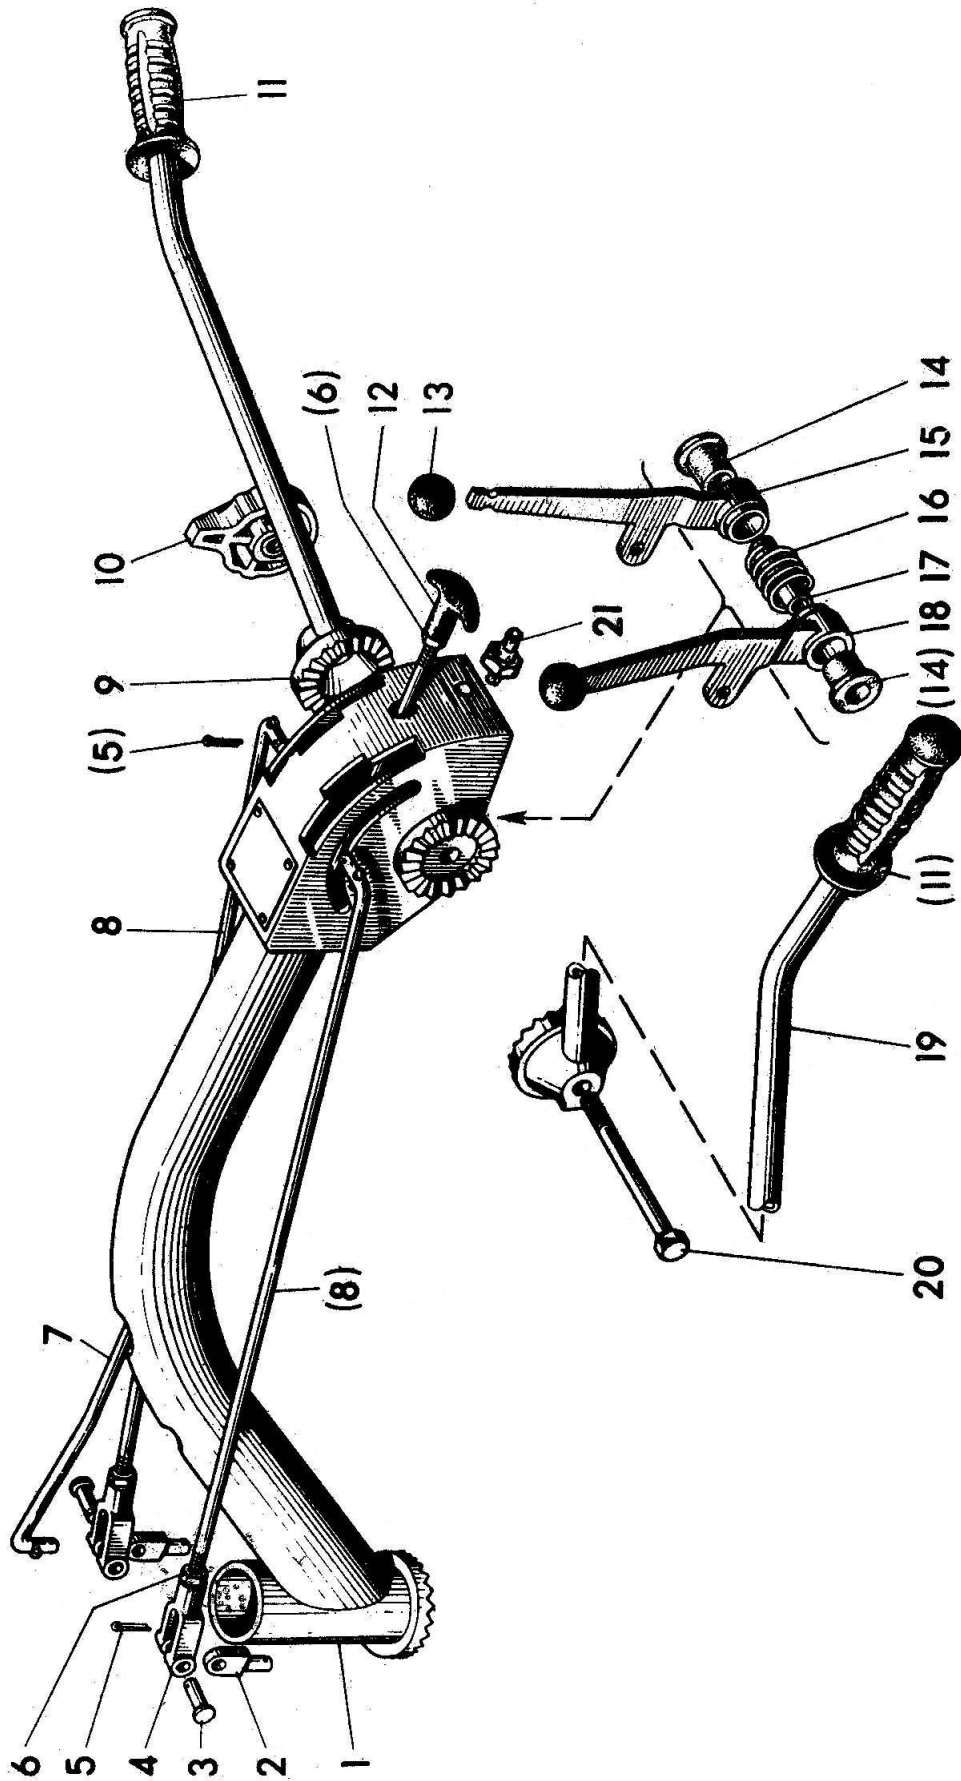

Figure 9 – Steering link
**05-3401. Steering link (figure 9)**